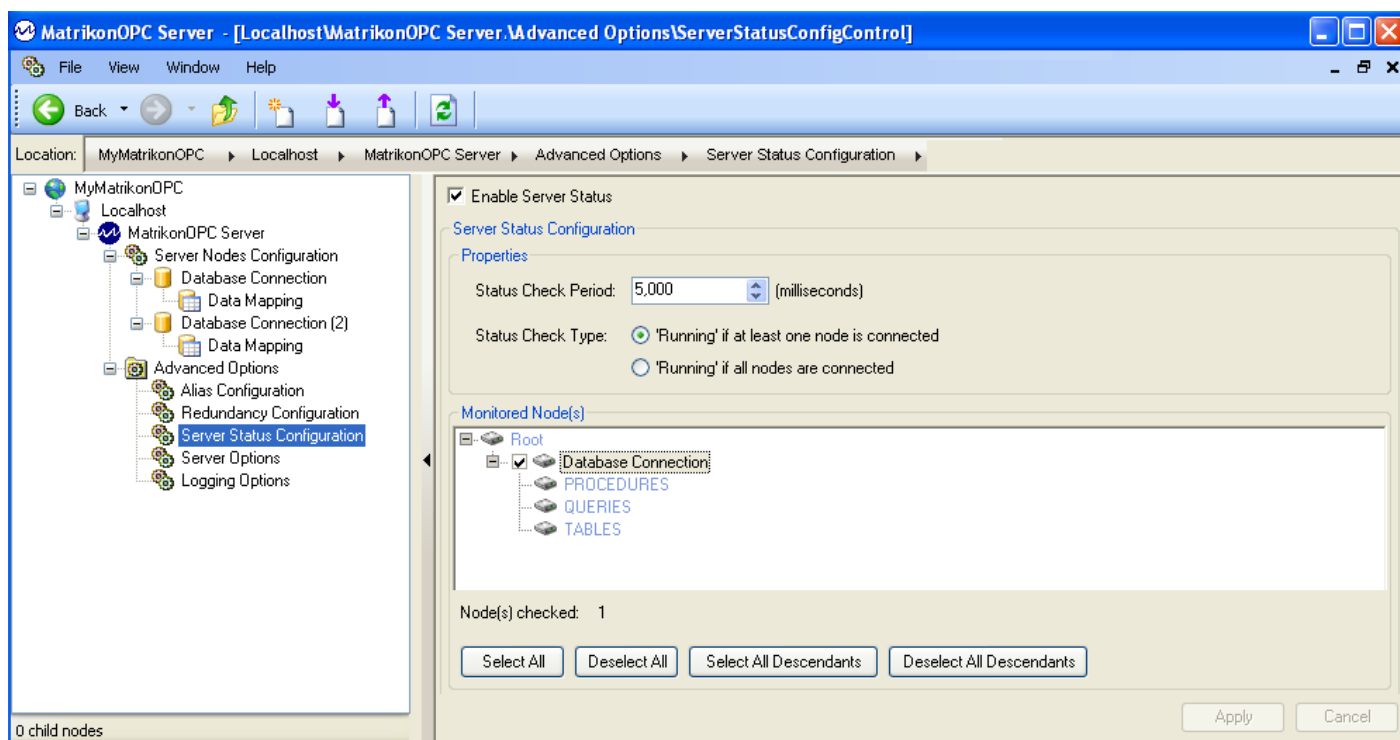

Figure 47 - Server Status Configuration Page
Figure 47 displays the settings available for configuring the Server Status node.
- The **Server Status Configuration** page (Figure 47) appears on the right side of the screen.